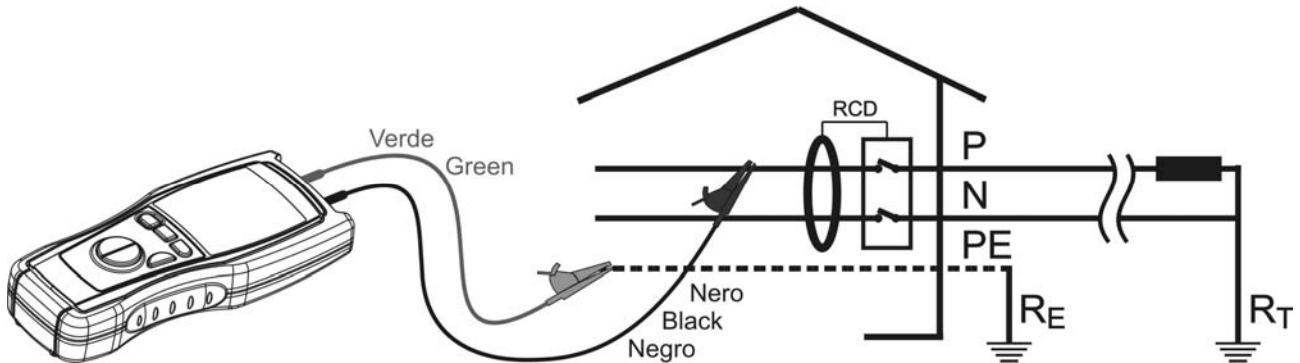

Fig. 11: Connection of the instrument's terminals during RCD test
5. Connect the green cable to the protective conductor (earth) and the black cable to the phase conductor at the lower end of the RCD under test (Fig. 11)
5. Insert the Shuko cable in a socket at the lower end of the RCD under test (Fig. 11)